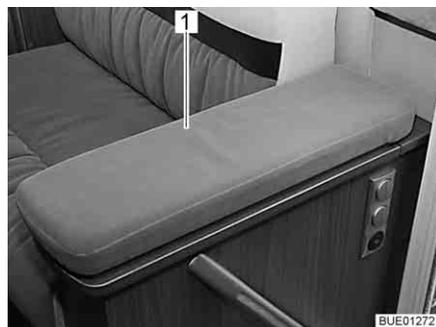
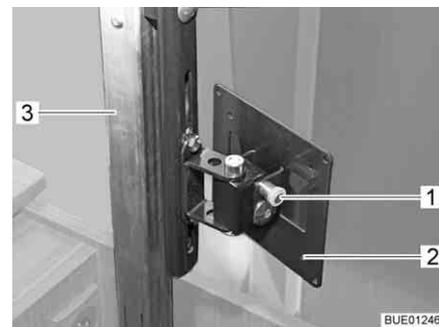

Fig. 66 TV compartment
Fig. 67 Lifting mechanism
- Lightly depress the cover (Fig. 66,1) of the TV compartment in the centre. The extension column (Fig. 67,3) is released and starts to move upwards.
- Pull the release knob (Fig. 67,1) and swivel holder (Fig. 67,2) with flat screen to the desired position.
- Turn the flat screen back into the original position until holder (Fig. 67,2) engages in the lock.
- Press the middle of the cover (Fig. 66,1) downwards against the resistance of the extension column (Fig. 67,3) until the locking mechanism engages.